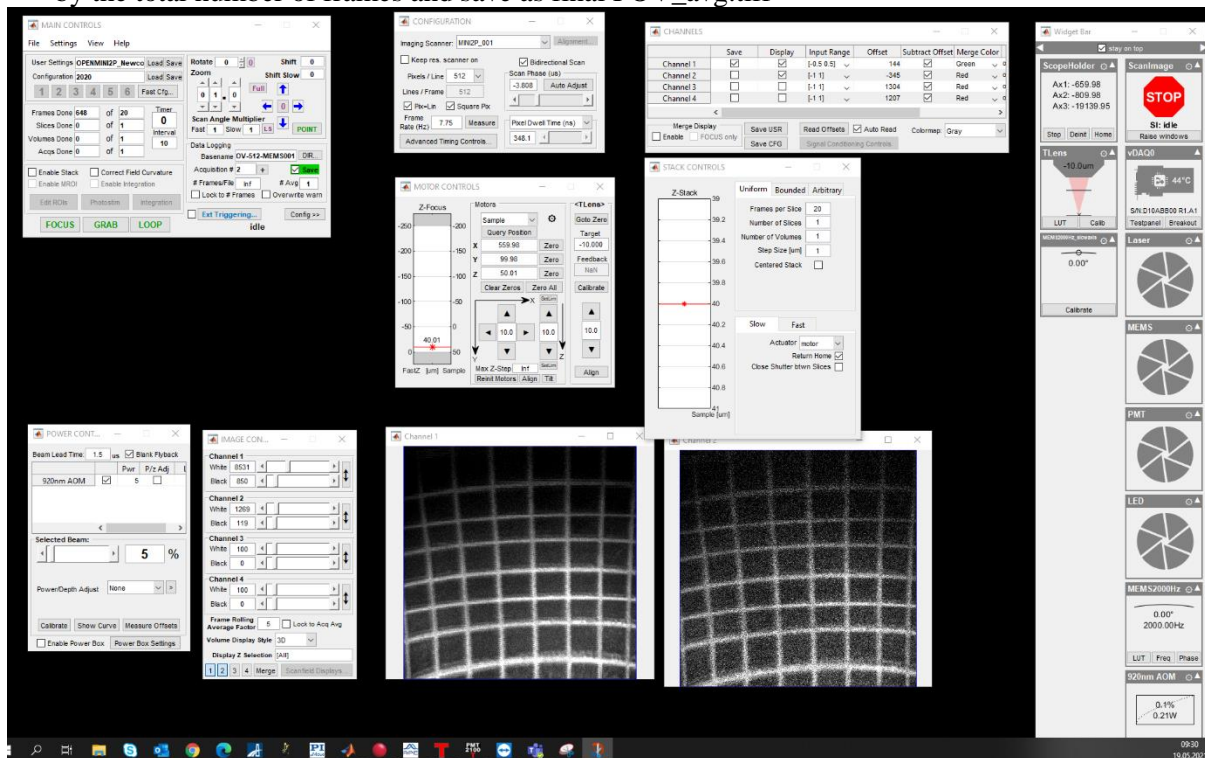

Fig.5.2(a): Arrangement of ScanImage main controls and channels display.
- 5.4 While in Focus, select “show grid cursor” and align the $50\mu\text{m}$ mid-lines to the vertical central and horizontal lines, by moving the stages in (x, y) directions as in Fig.5.2-b.
Fig.5.2(b): Zoom in of Fig.3.2 (a) showing the proximity of the objective to the prism and raw (as measured) FOV >> 500x500 μm . Each square corresponds to 50 μm .